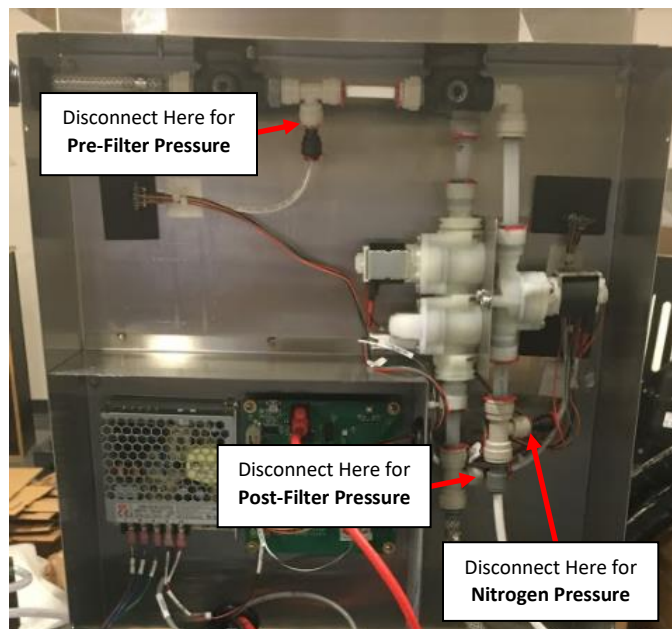

Figure I3: Pressure Transducer connection points shown.
5. Identify the Pressure Transducer that is suspected to be broken/malfunctioning. Remove the locking clip holding it in place and disconnect Pressure Transducer at/with the Black Push-to-connect fitting that is inserted into the Tee Push-to-fit fittings. Cut cable tie holding the Pressure Transducer PCB in place on insulation pads if needed (remember to install the cable tie back in place when done so PCB is not on bare metal). See Figure I3.
9. Note the Pressure Reading with that noted in **STEP 2**. Compare the pressure readings and verify that the pressure readings have swapped and are close to original readings. If the difference is negligible, the pressure transducer is functional. **See Figure I3** for location of each reading.